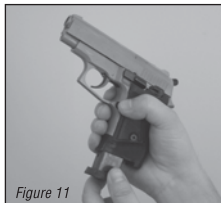
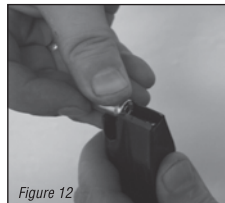
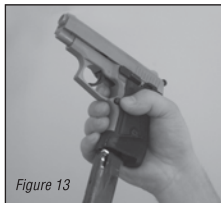

Figure 11
Figure 12
Figure 13
Press the magazine release button (Figure 11) and pull down the magazine out of its chamber. Fill the magazine with cartridges (14 pieces of 9mm cartridges for cal.9x22 model or 18 pieces of 8 mm cartridges for cal.8x20 model) as shown in Figure 12.
Insert the magazine back into its chamber, until you hear a click sound (Figure 13). In order to load a cartridge into the barrel, pull the slide (20) back and release at the end (Figure 14-15).
- Take out the magazine from its chamber by pressing the release button which is pointed out with an arrow in Figure 11.
- 2 Fill the magazine with cartridges (Figure 12) and insert the magazine into its chamber (Figure 13).